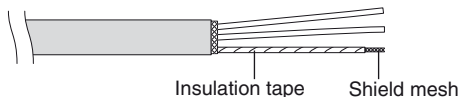

Fig. 4-10
- (2) Unbraid the braided shield carefully and twist the unbraided shield wires tightly together. Insulate the shield wires by covering them with an insulation tube or wrapping insulation tape around them. (Fig. 4-10)